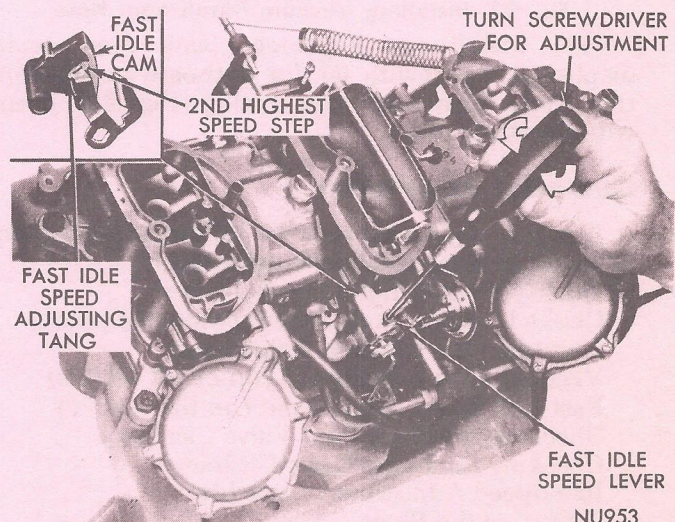

Fig. 27—Fast Idle Speed Adjustment (on vehicle)
- (1) With the engine off and the transmission in the PARK or NEUTRAL position, open the throttle slightly.
- (2) Close choke valve until fast idle screw tang can be positioned on the second highest-speed step of the fast idle cam (Fig. 27).